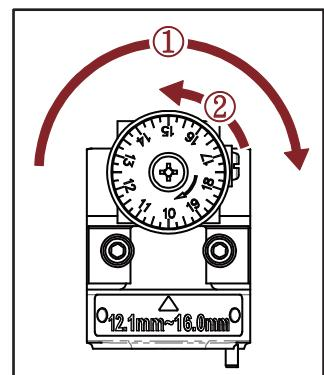

Fig. 6-2
- Left Positioning Shelf:  $\Phi 12.1 \text{ mm} - \Phi 16.0 \text{ mm}$  (Fig. 6-2)